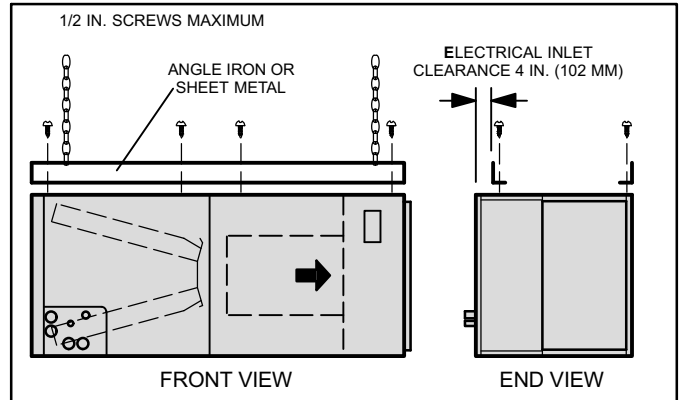

Figure 3. Suspending Horizontal Unit
2. If the unit is suspended, the entire length of the cabinet must be supported. If you use a chain or strap, use a piece of angle iron or sheet metal attached to the unit (either above or below) to support the length of the cabinet. Use securing screws no longer than 1/2 inch (12.7mm) to avoid damaging the coil or filter as illustrated in figure 3. Use sheet metal screws to connect the return and supply air plenums as required.
15. If suspending the unit, it must be supported along the entire length of the cabinet. If using chain or strap, use a piece of angle iron or sheet metal attached to the unit (either above or below) so that the full length of the cabinet is supported. Use securing screws no longer than 1/2 inch (12.7mm) to avoid damage to coil or filter as illustrated in figure 3 on page 6. Connect return and supply air plenums as required using sheet metal screws.